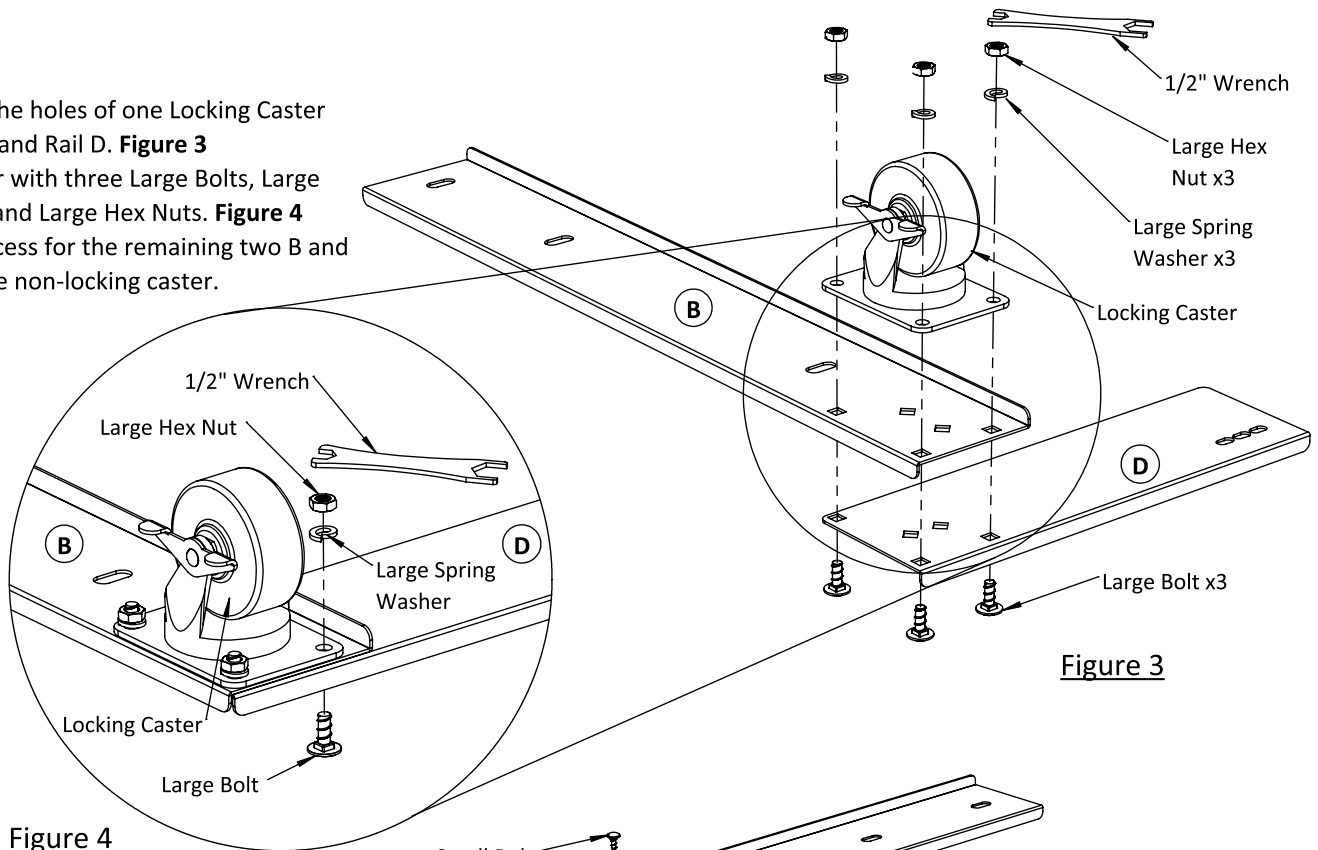

Figure 4
5. Secure together with three Large Bolts, Large Lock Washers, and Large Hex Nuts. **Figure 4**